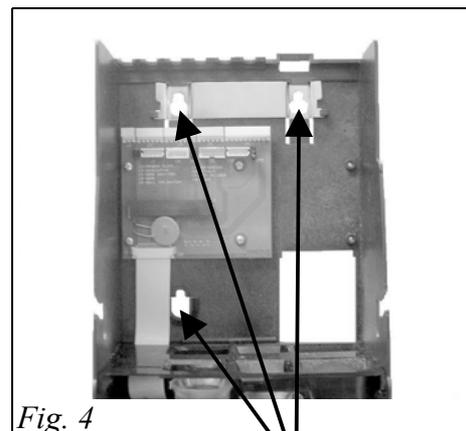

Fig. 4
5. Hang the Change giver on the rear panel (*Fig. 4*).
The P3000 is a programming/servicing unit which must be plugged on the 4-pin connector on the front panel (fig.4). Cut power before plugging/unplugging the P3000 flat cable.